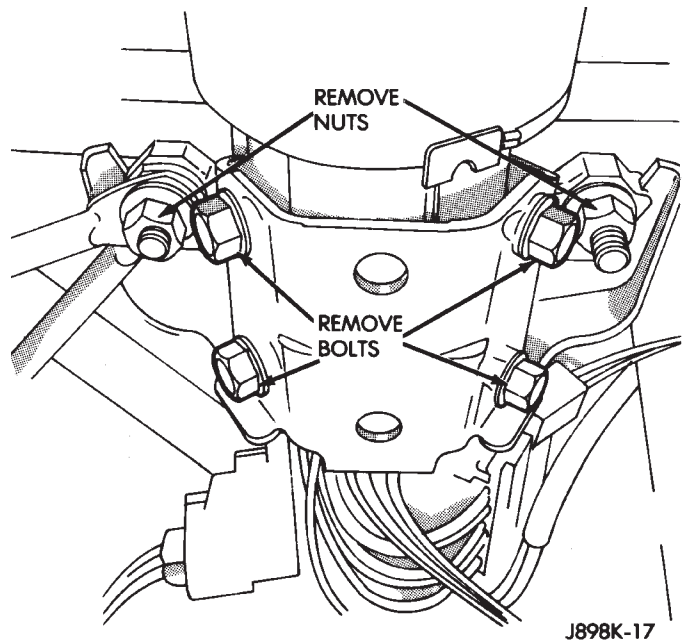

Fig. 12 Lower Steering Column
- (20) Remove 2 nuts holding steering column bracket to brake sled (Fig. 12).
- (21) Remove 4 bolts holding steering column bracket to column.